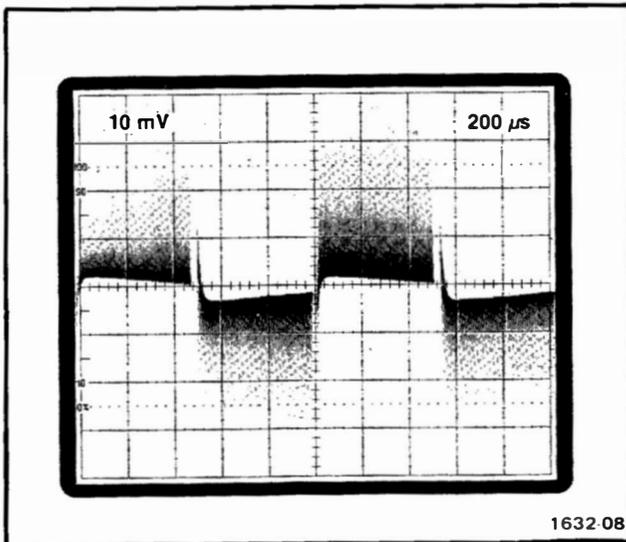

Fig. 2-2. Display of complex waveform (idealized) with 0.5 volt reference amplitude of 0.05 MHz, properly set.
i. Check—that the waveform is similar as illustrated in Fig. 2-2 (within one vertical division).